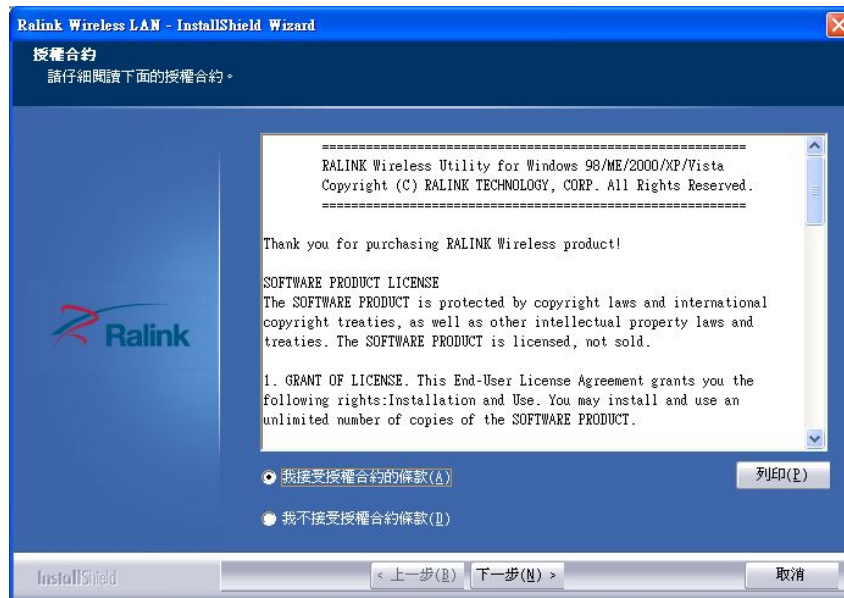

Figure 6-29: Wireless Driver License Agreement
Step 3: The license agreement in **Figure 6-29** appears.